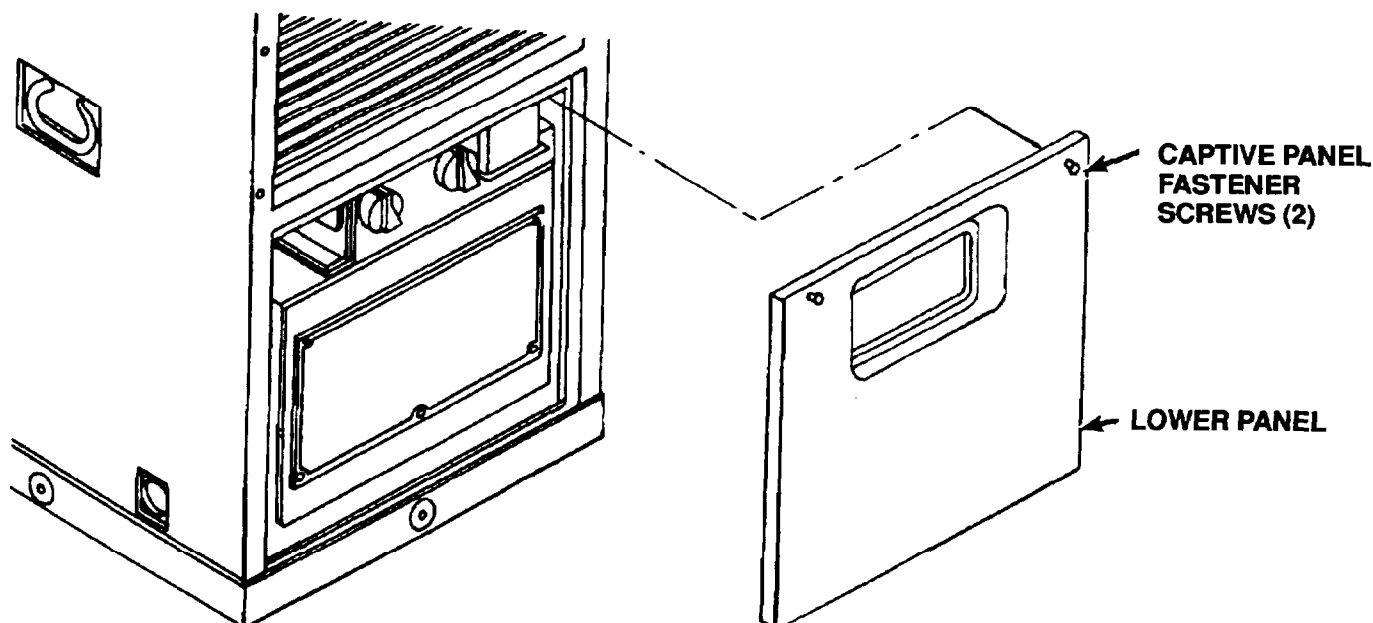

Figure 4-37. Lower Front Panel
- (2) Carefully feed sensing bulb and capillary up and into conditioned air intake compartment. (See Figure 4-37.)
- (3) Install grommet in bulkhead.
- (4) Secure remote sensing bulb with clamp, flat washer, lockwasher, and screw.
- (5) Coil excess capillary tubing in recess behind control panel.
- (6) Connect (P7) plug and harness to receptacle (J7) on the control panel.
- (7) Carefully move junction box into position and align mounting hardware.
- (8) Tighten four captive panel screws in junction box mounting flanges.
- (9) Secure filter and filter retainer with two captive turnlock stud fasteners.
- (10) Secure intake grille assembly with six captive turnlock stud fasteners.
- (11) Set the bottom of the lower front panel in position so that the flange is inside the lip on the cabinet base.
- (12) Push the top of the lower front panel back into position.